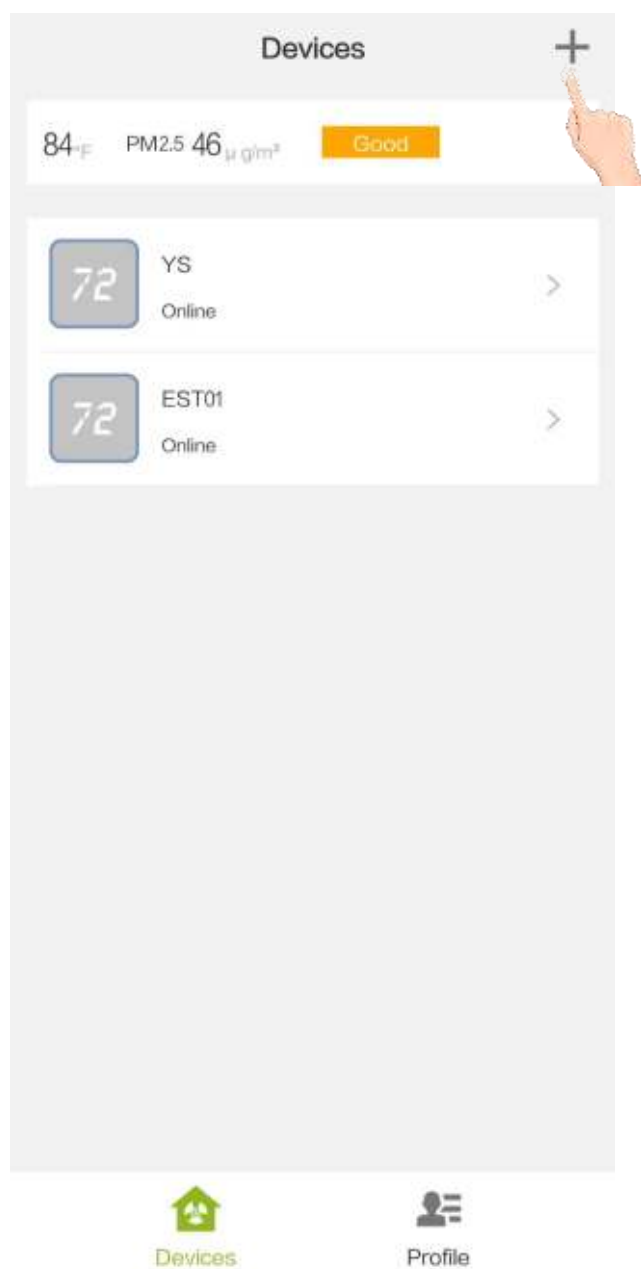

Fig. 1
- Press **+** icon (see **Fig.1**) on the upper-right corner of the App.